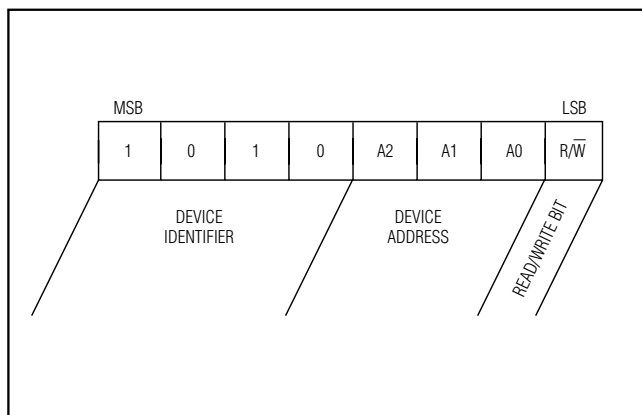

Figure 4. Slave Address
- 3) **Slave Address:** This is the first byte received following the start condition from the master device. The slave address consists of a 4-bit control code. For the DS3930, this is set as 1010 binary for read/write operations. The next bits of the slave address are the device address (A2–A0). The last bit of the slave address (R/W) defines the operation to be performed. When set to a '1,' a read operation is selected, and when set to a '0,' a write operation is selected (see Figure 4).